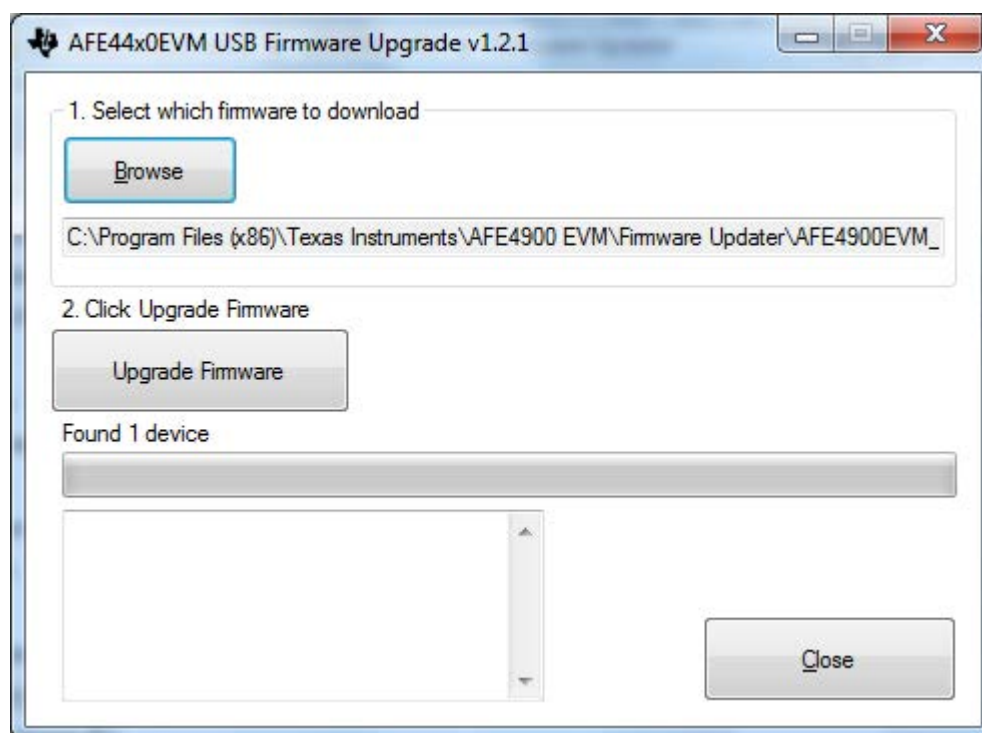

Figure 53. Firmware Loader Application: Found Device
4. Release the SW2 switch when the application displays *Found 1 device*. If the application does not detect the device and displays *No Device Connected*, then repeat step 3. Click on the *Upgrade Firmware* button (see Figure 53).